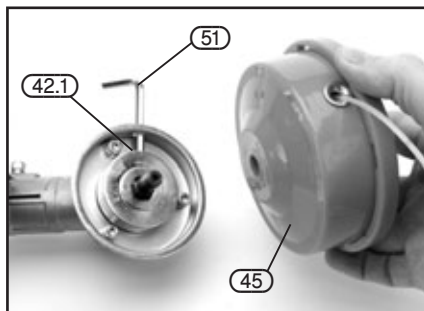

FIG. 12
### 9.5 FITTING THE COMPLETE SPOOL ASSEMBLY - FIG.12
- With the engine stopped, locate the spindle locking point (42.1) (Fig 12).
- Using the hex. key supplied (51), lock the spindle to stop it from turning. It may be necessary to turn the spool assembly before the hex key fully engages all the way (Fig 12).
- Sit the blade (44) on the spindle making sure the inner flange (45.5) is the right way round.
- Replace the outer flange (53) and flange cover (54).
- Start the blade nut (55) anticlockwise before tightening it